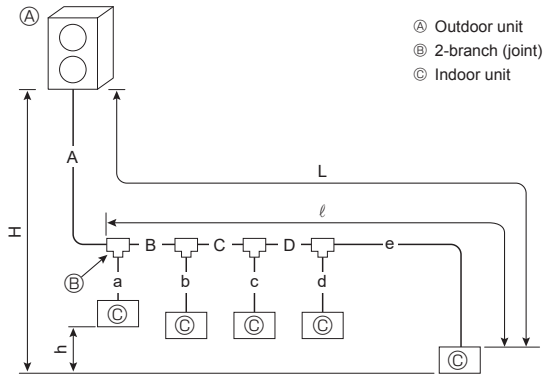

Fig. 4-3 (a)
4.3.1. Connection without Branch Box (Fig. 4-3)